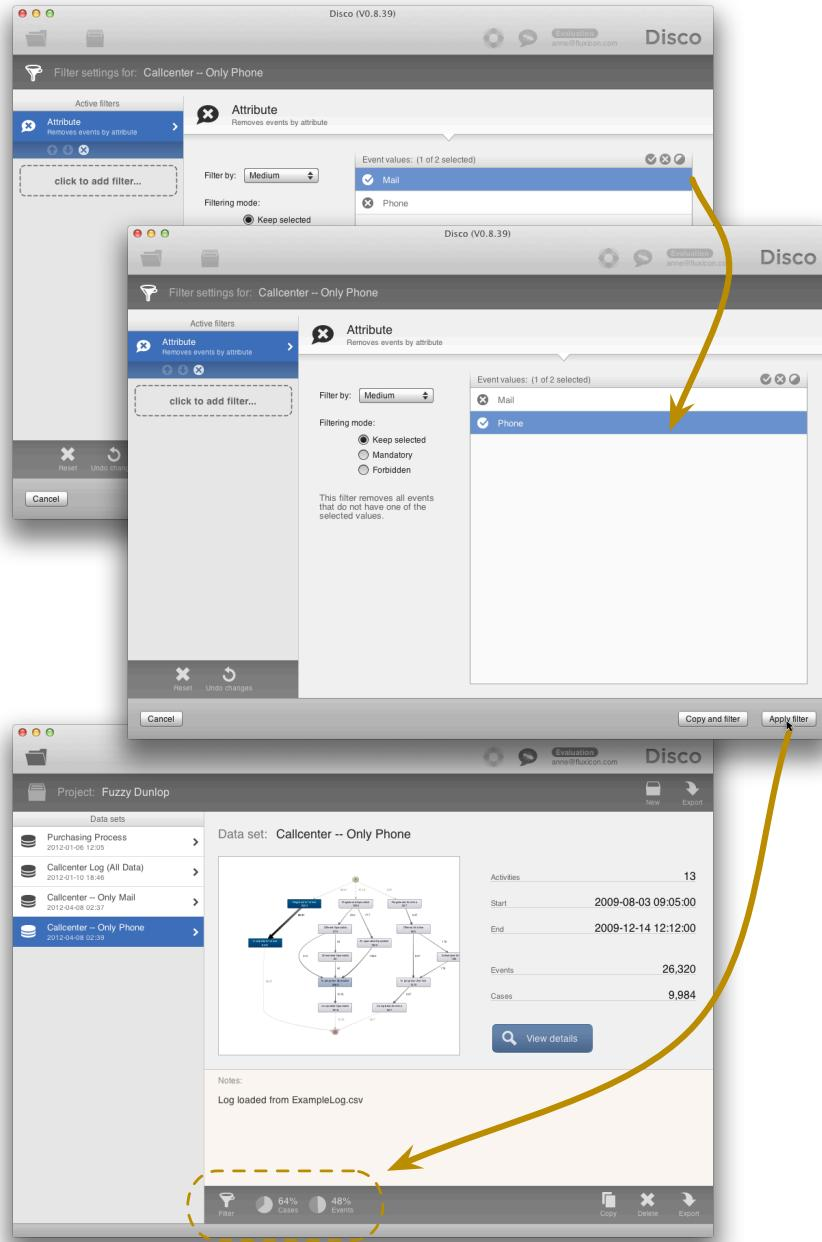

Fig. 6.12. Example Scenario – Step 4: Change the filter to focus on phone requests.
Step 4: To change the copied filter, you can press the filter symbol and adapt the filter settings as shown in Figure 6.12. After the filter settings have been changed, the new copy contains now only phone requests as desired.